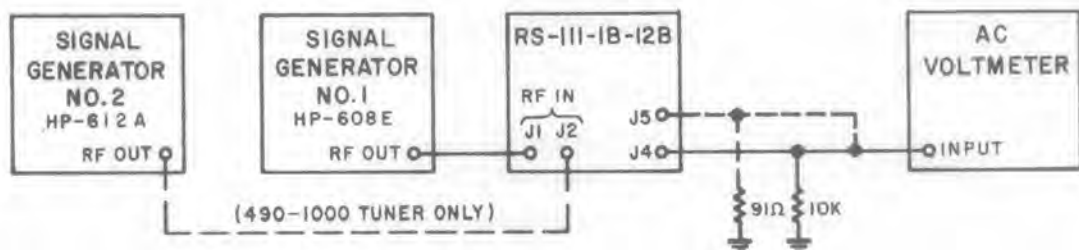

Figure 4-3. Test Setup, AM Sensitivity/Output Stability Performance Test
- (1) Connect the equipment as shown in Figure 4-3. Signal generator No. 2 is used to test the 490-1000 tuner.
- (1) Connect the equipment as shown in Figure 4-3.
- (2) Set the receiver function switch to AM/AGC and the IF BANDWIDTH switch to 300 KC.
- (3) Set signal generator No. 1 controls for a 1000 cycle, 50% modulated rf output.
- (4) Set the receiver RANGE MC switch to select the 30-60 tuner. Set the tuner dial to 60.
- (5) Set signal generator No. 1 output frequency to 60 mc and the output level to 2  $\mu$ V.
- (6) Use the receiver signal monitor to tune the receiver to the same frequency as the output of the signal generator No. 1.
- (7) Use the receiver VIDEO GAIN control to set a convenient dB reference on the ac voltmeter. This reference should be no greater than 5 V ac.
- (8) Slowly increase the output of signal generator No. 1 to 10,000  $\mu$ V while observing the dB scale of the ac voltmeter. At no time during the increase should the indication on the ac voltmeter change more than a total of 3 dB.
- (9) Set the receiver RANGE MC switch to select the 60-300 tuner. Set the tuner dial to 200.
- (10) Set signal generator No. 1 output frequency to 200 mc and the output level to  $2 \mu\text{V}$ .
- (11) Repeat steps (6) through (8).